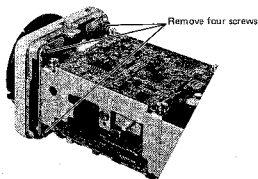

Fig. 3-1
- Remove four screws fixing front chassis assembly. (Fig. 3-1)